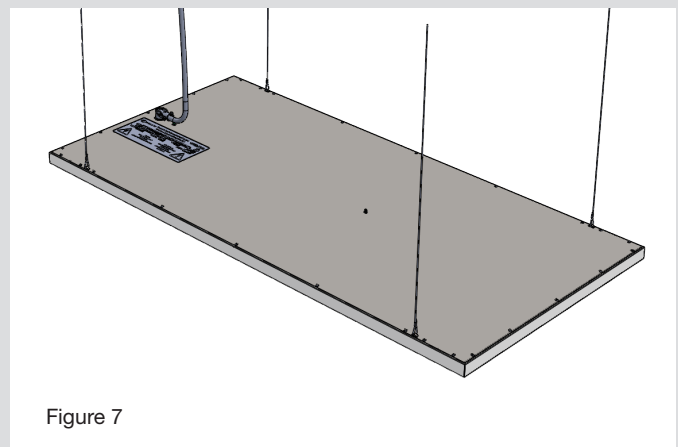

Figure 7
- The panels will be installed suspended from the ceiling. (Fig. 7)